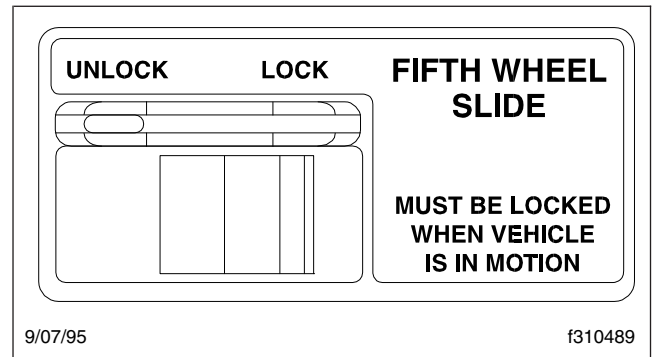

Fig. 10.6, Cab Control, Fifth Wheel Slide
- 2.1 For air-operated models, set the cab-operated control switch (Fig. 10.6) to UNLOCK.